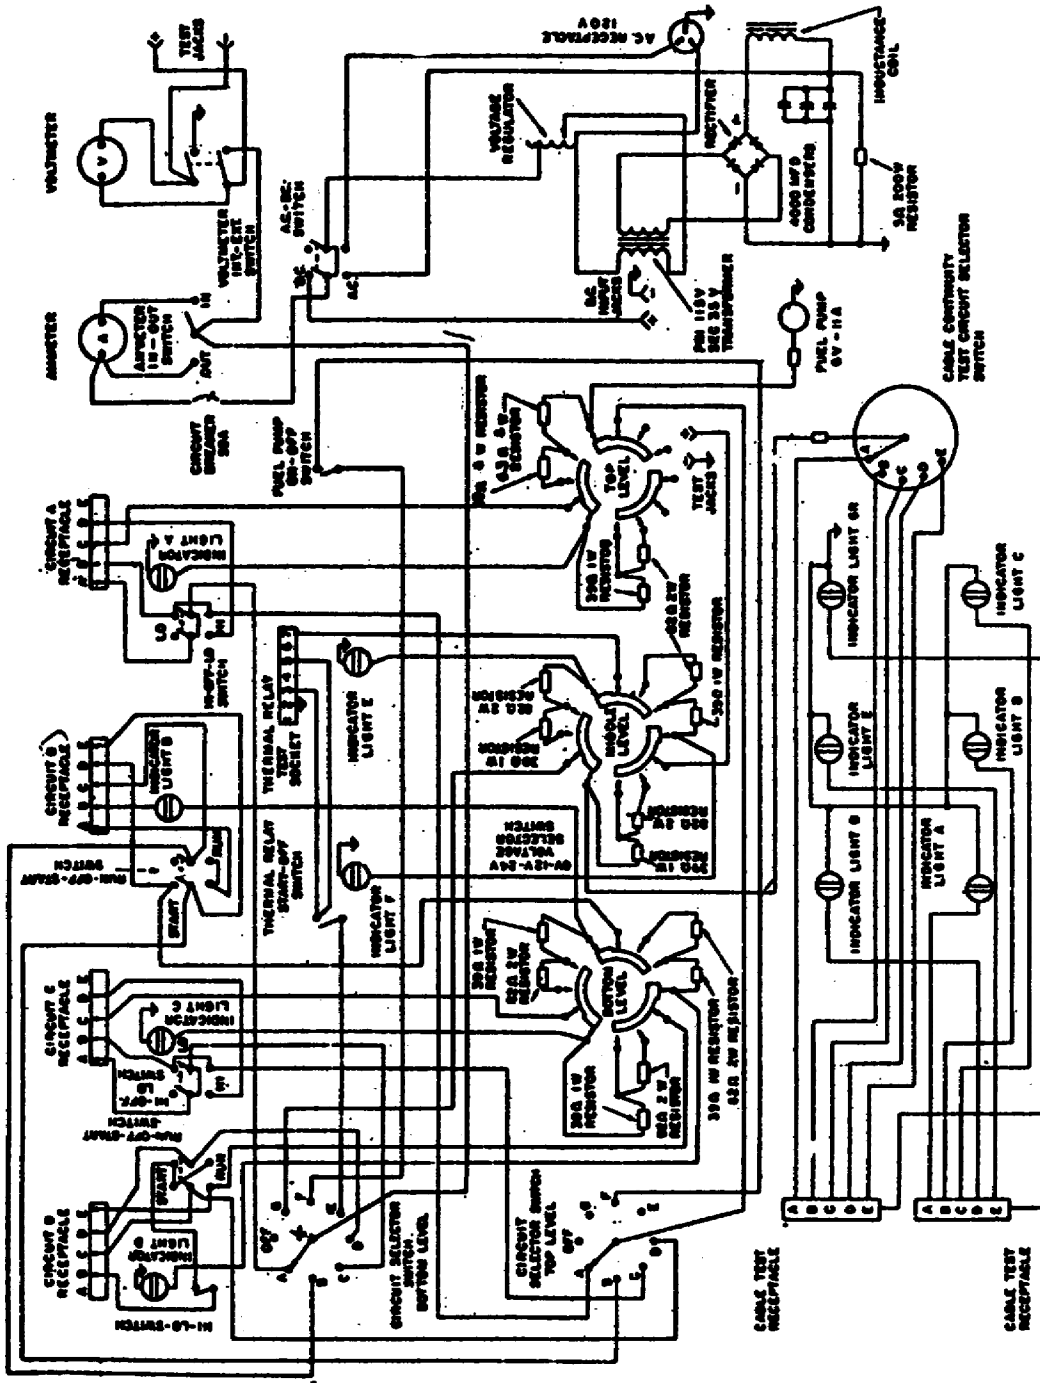

Figure 13. Test set schematic wiring diagram.
d. Testing of the test set is accomplished by organizational maintenance personnel utilizing the procedures listed below, the schematic wiring diagram (fig 13), and the troubleshooting chart (fig 14). Satisfactory completion of the procedures insures proper operation of the vest set.
- (1) Place all test set panel ON-OFF switches in OFF positions.
- (2) Connect the test set to a 120-volt, AC, 60-hertz, power supply.